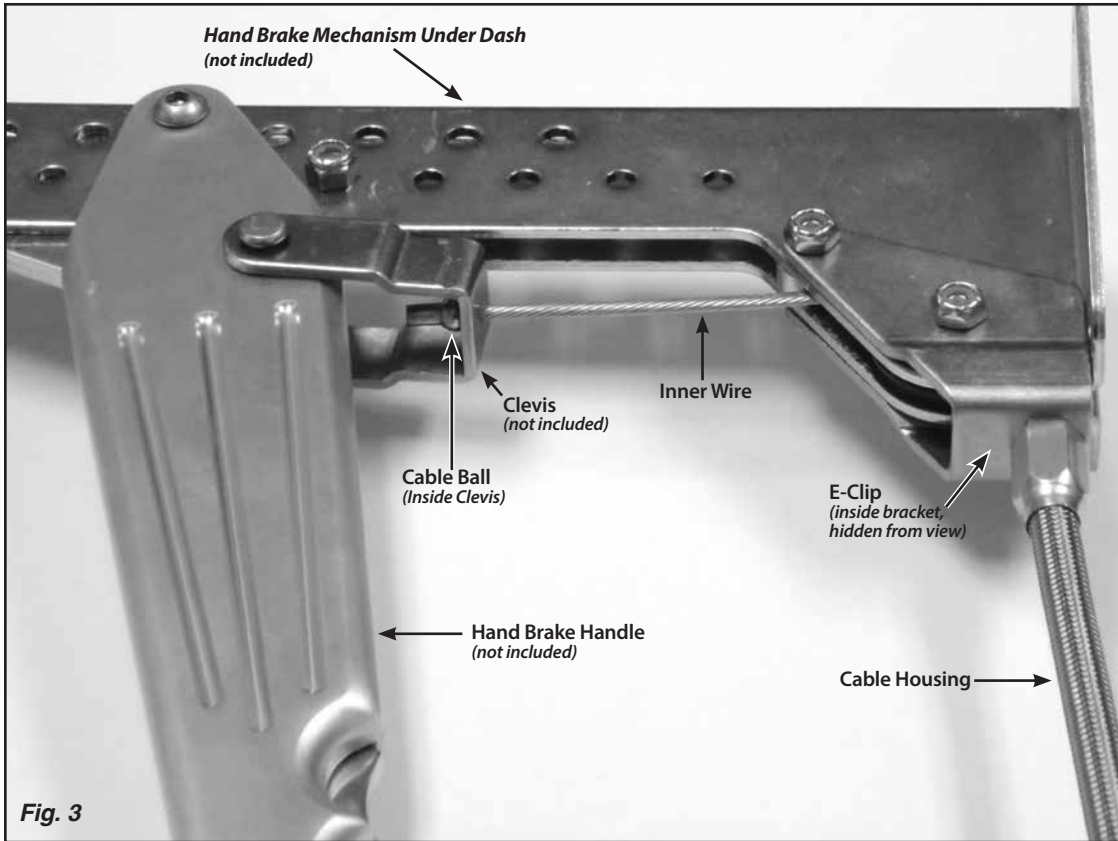
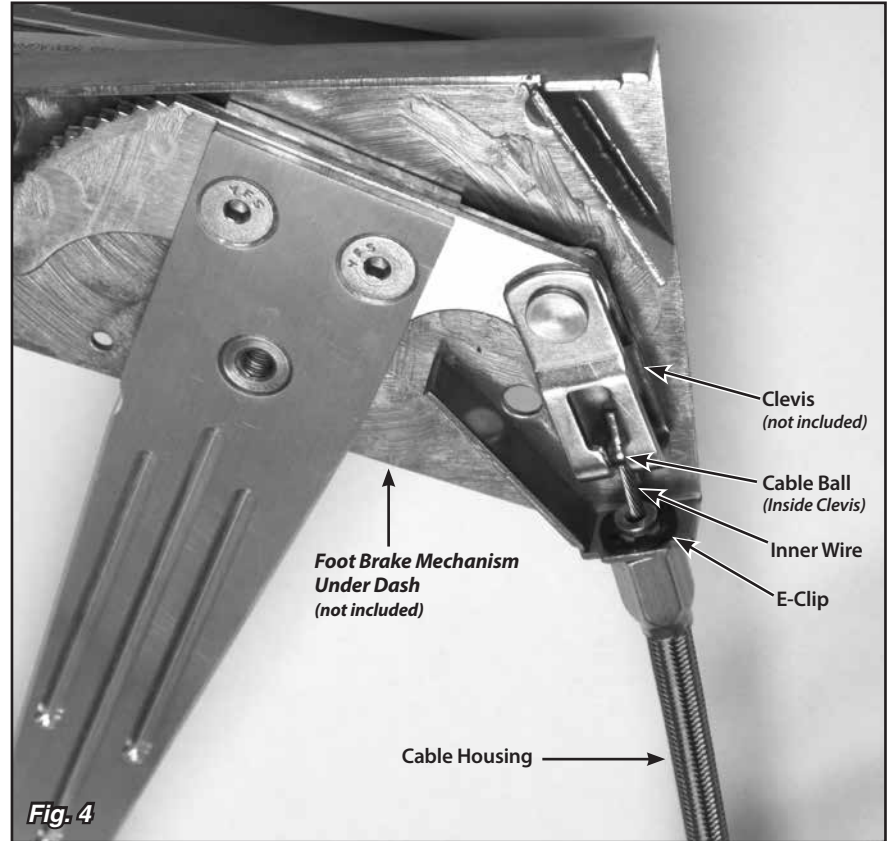

Fig. 3
Fig. 4
Step 2: Remove the E-clip from the end of the cable housing. Insert the cable housing into the hand or foot brake mechanism under the dash, and secure the cable housing with the E-clip as shown in Fig. 3 (hand brake) or Fig. 4 (foot brake).